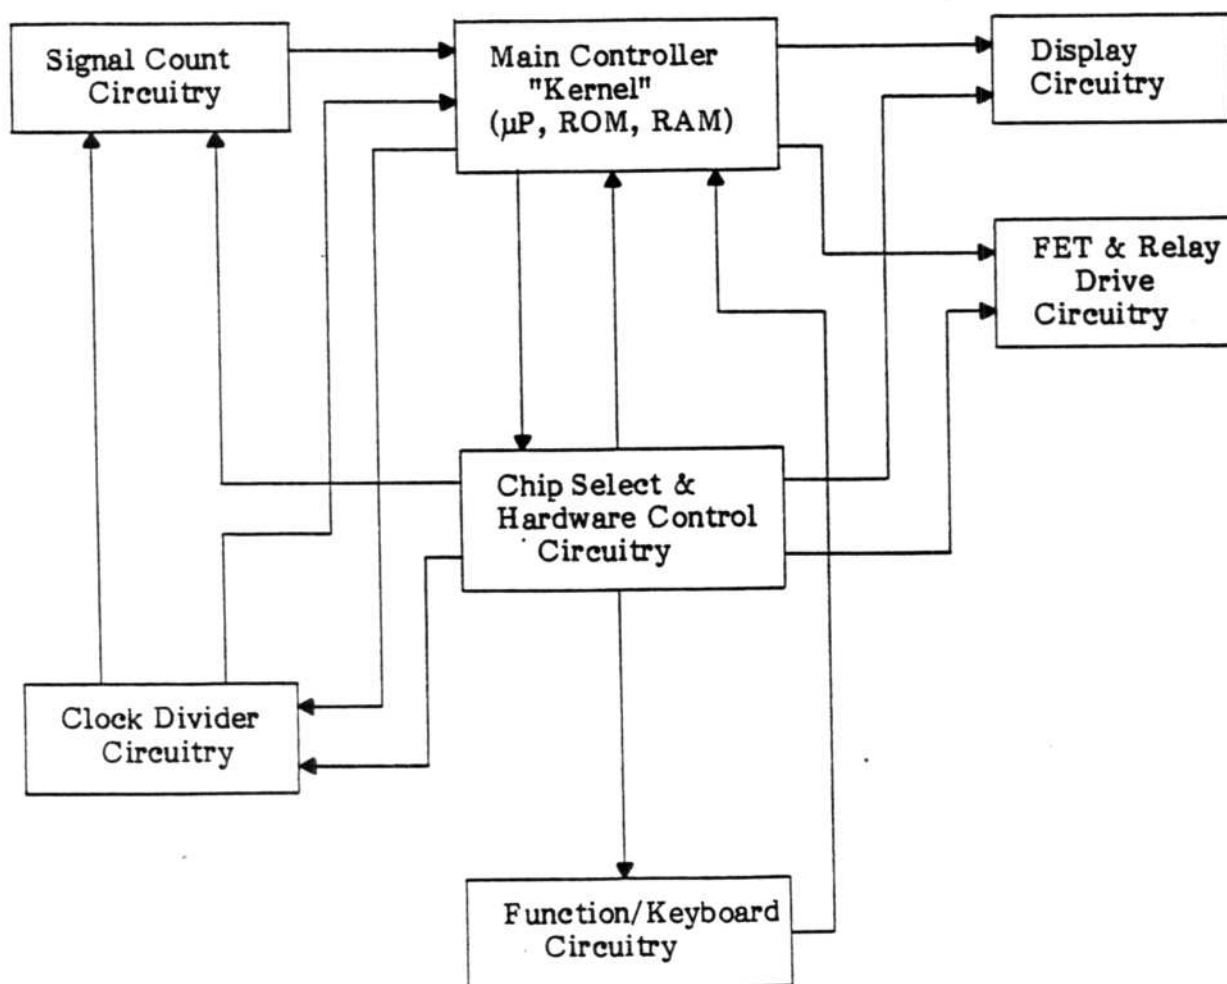

Figure 5.18 - Simplified Digital Section Block Diagram
5.5.4.4.1 Figure 5.18 presents a simplified digital section block diagram. Use Figure 5.18 along with fold-out Figure 4.21 (previous section) - the main digital schematic block diagram - when proceeding through the SA flowcharts and using the signature sets.